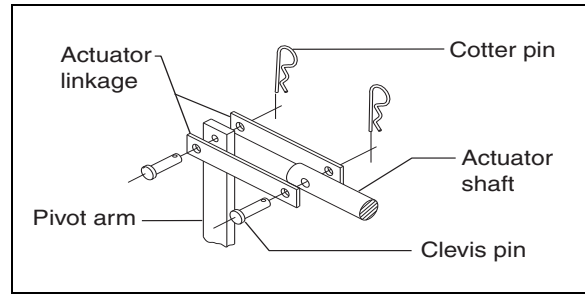

Fig. 1 Linkage connection for normally closed pneumatic valves (normally open valves similar).
4. Allow a minimum of 14 in. (356 mm) of free unobstructed space around the valve for access. In general, the valve may be installed in a 360° rotation. However, single body horizontal hood valves should be installed so that the pivot arm (see Fig. 1 and 4) is located between 8 and 4 o'clock (not within 4 to 8 o'clock).
6. Linkage Connection—Many valves require field connection of pivot arm (see Figs. 1 and 2).